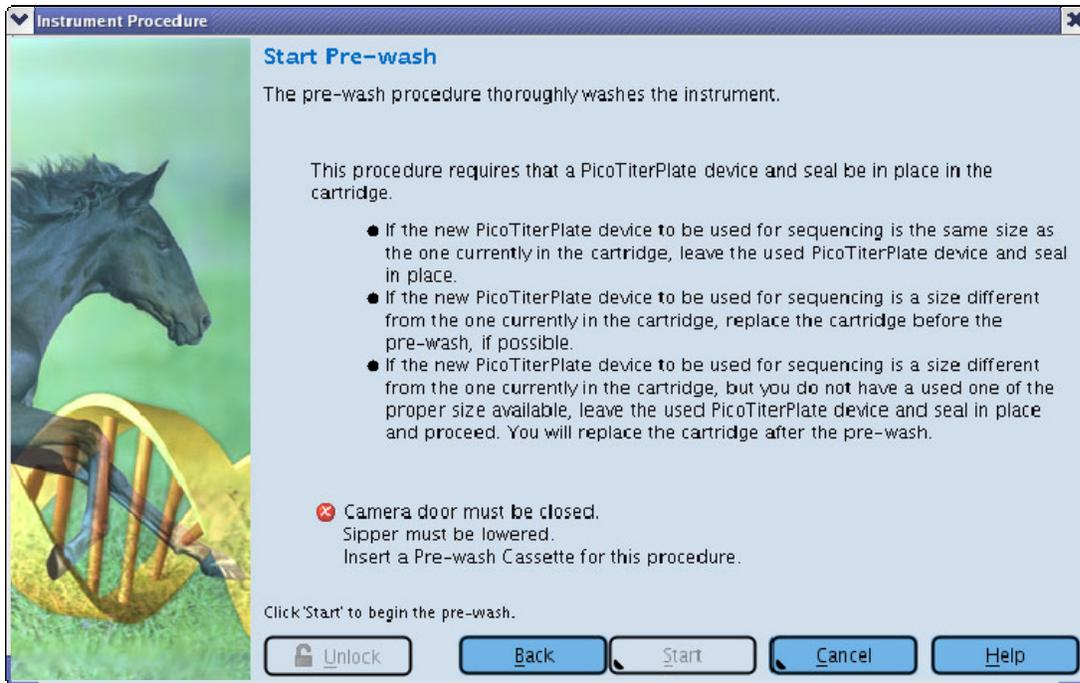

Figure 20: GS Sequencer Run Wizard – ‘Start Pre-wash’ window
- Pre-wash: this is the same as the Pre-wash button from the first Run Wizard window (see above). This functionality is reproduced here for convenience, during instrument service. Selecting this option from either location opens the 'Start Pre-wash' window of the Run Wizard (Figure 20).